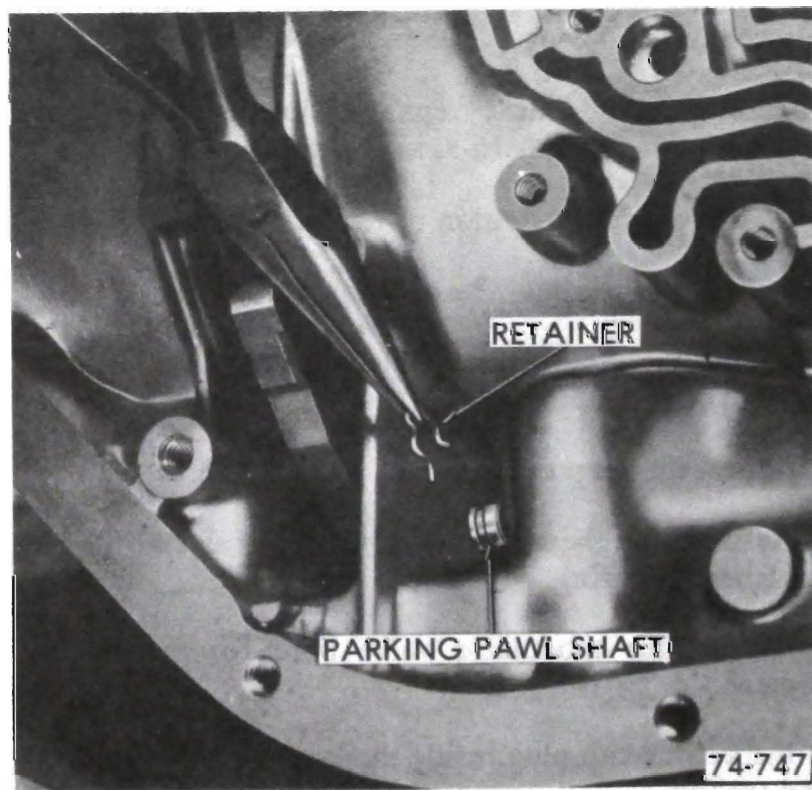

Figure 76-242
2. Install the parking pawl shaft retainer clip. See Figure 76-242.